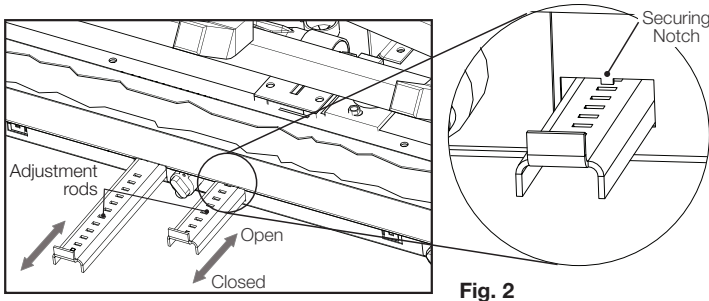

Fig. 2
- Position the adjustment rod into the middle of the opening to disengage it from the securing notches (**Fig. 2**).